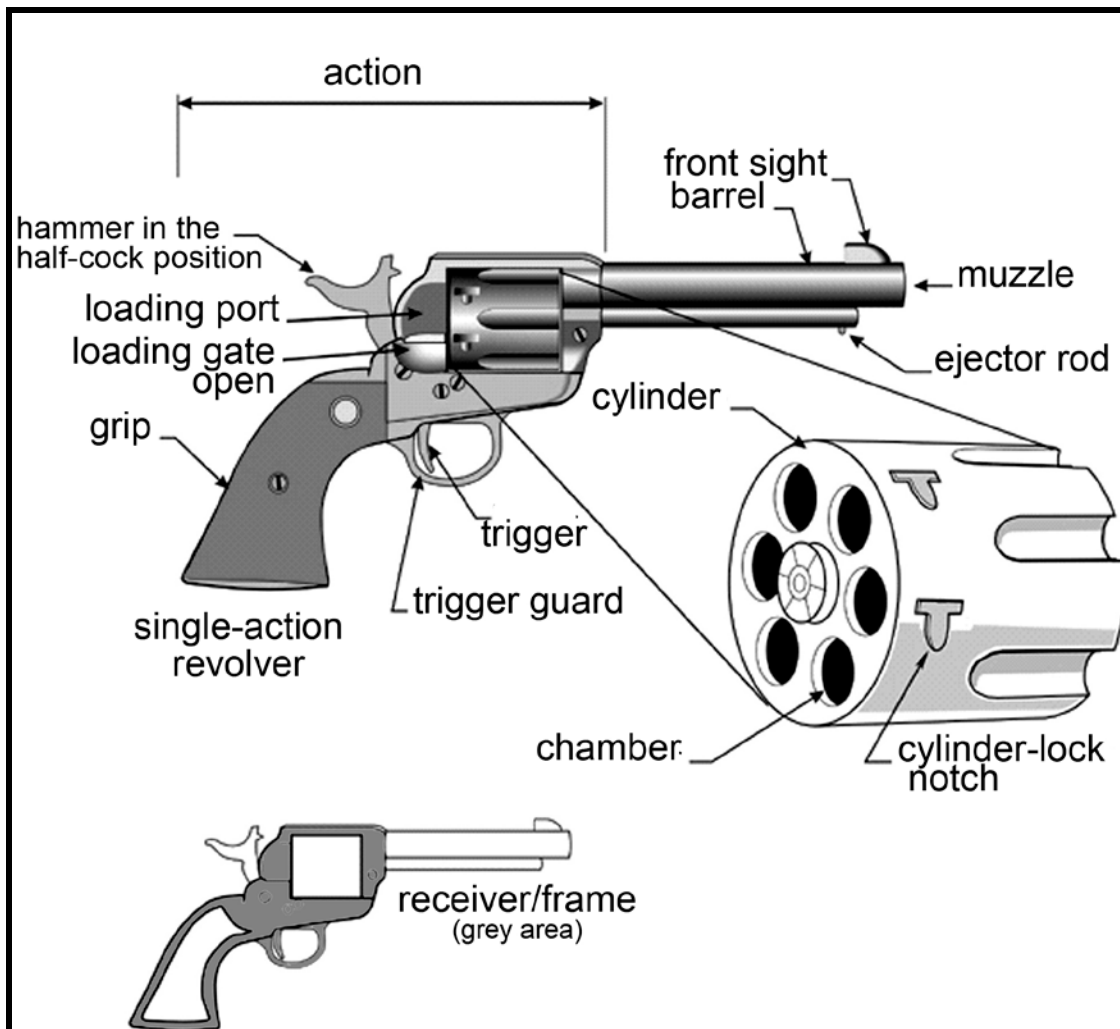

Figure 108. Single-action revolver
- c. The extra cartridges in a manually repeating revolver are contained in the cylinder (Figure 108).